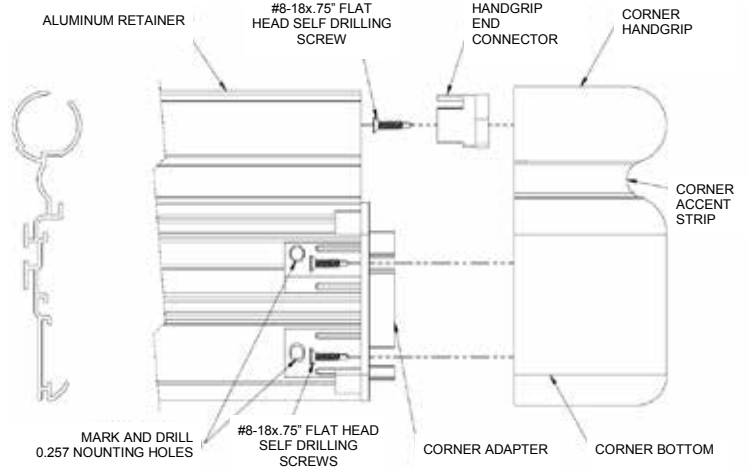

Figure 5
STEP 6. Measure and cut the flexible impact cushion to fit comfortably between the molded accessories that are to be attached to the retainer. Then slide the impact cushion into the track located on the aluminum retainer (See Figure 5).